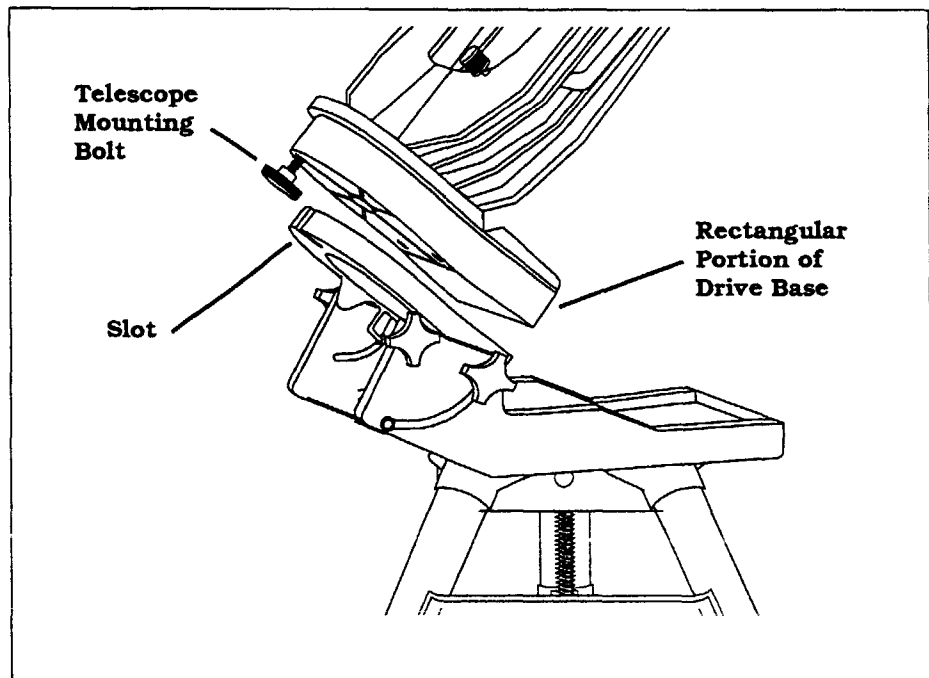

Figure 5-5
3. Pick the telescope up by the fork tines and position it above the tripod. It should be oriented so that the telescope is over the tripod with the base pointing toward the tilt plate (see figure 5-5).